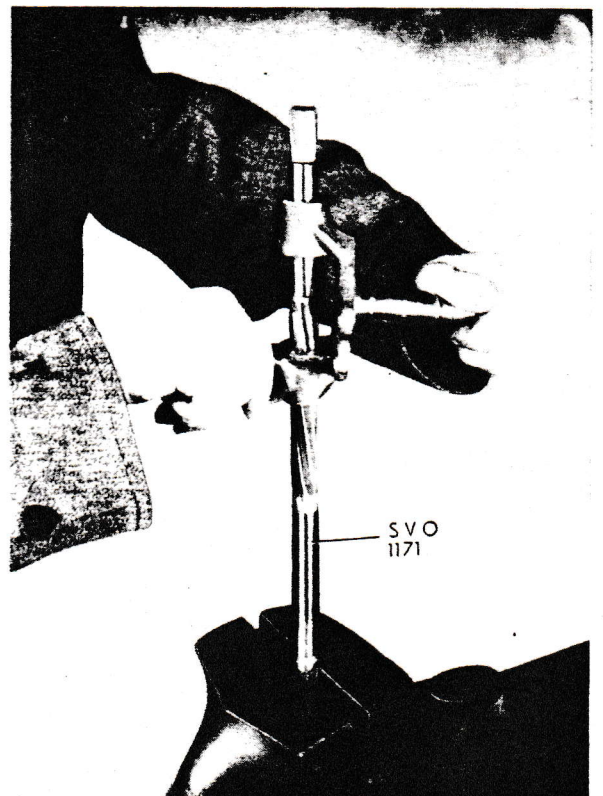

Fig. 19. Reaming king pin bushes
2. Ream the bushes with reamer SVO 1171 as shown in Fig. 19. With a new king pin the play should then correspond to a running fit. Fit the grease nipples. Coat the bushes with chassis grease.